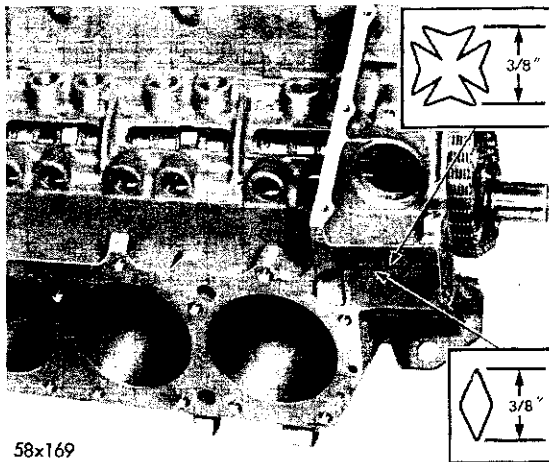
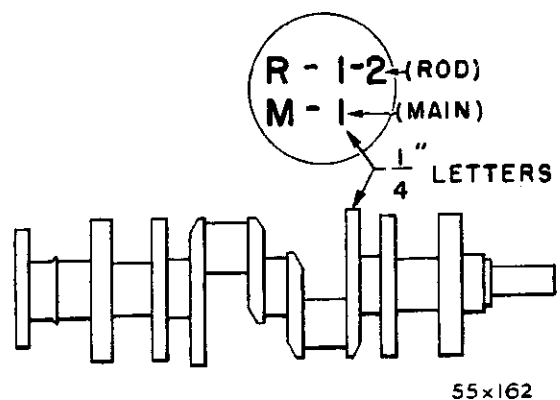

Fig. 44—Showing Location of the External Engine Numbering Pad
Fig. 45—Showing Location of Mark of No. 3 Counterweight
**IMPORTANT:** A Maltese Cross stamped on the engine numbering pad (Fig. 44) indicates that engine is equipped with a crankshaft which has one or more connecting rods and/or main bearing journal finished .001 inch oversize. The position of the undersize journal or journals is stamped on a machined surface of the No. 3 counterweight (Fig. 45).